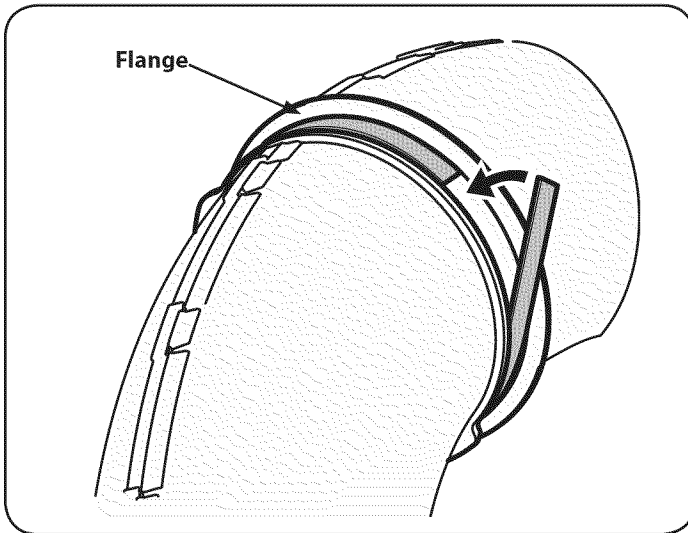

Figure 24
16. Peel the backing off of the self-adhesive foam strip (721-04388) that has been included with your grass collector. Apply it to the upper chute, flush against the flange as shown in Fig. 24